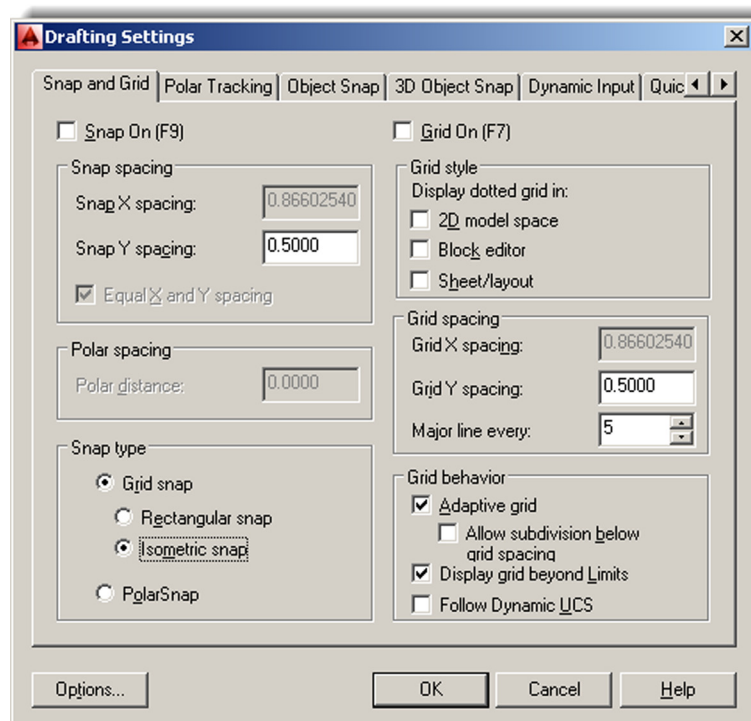

FIGURE 20.3
Step 2. From the cascading menu select Tools→Drafting Settings..., and the dialog box seen in Figure 20.3 appears.
- Step 3.** Pick the Snap and Grid tab, go to the Snap type category (lower left), pick Isometric snap, and press OK. Figure 20.3 is a screen shot of the Drafting Settings dialog box with Isometric snap selected.